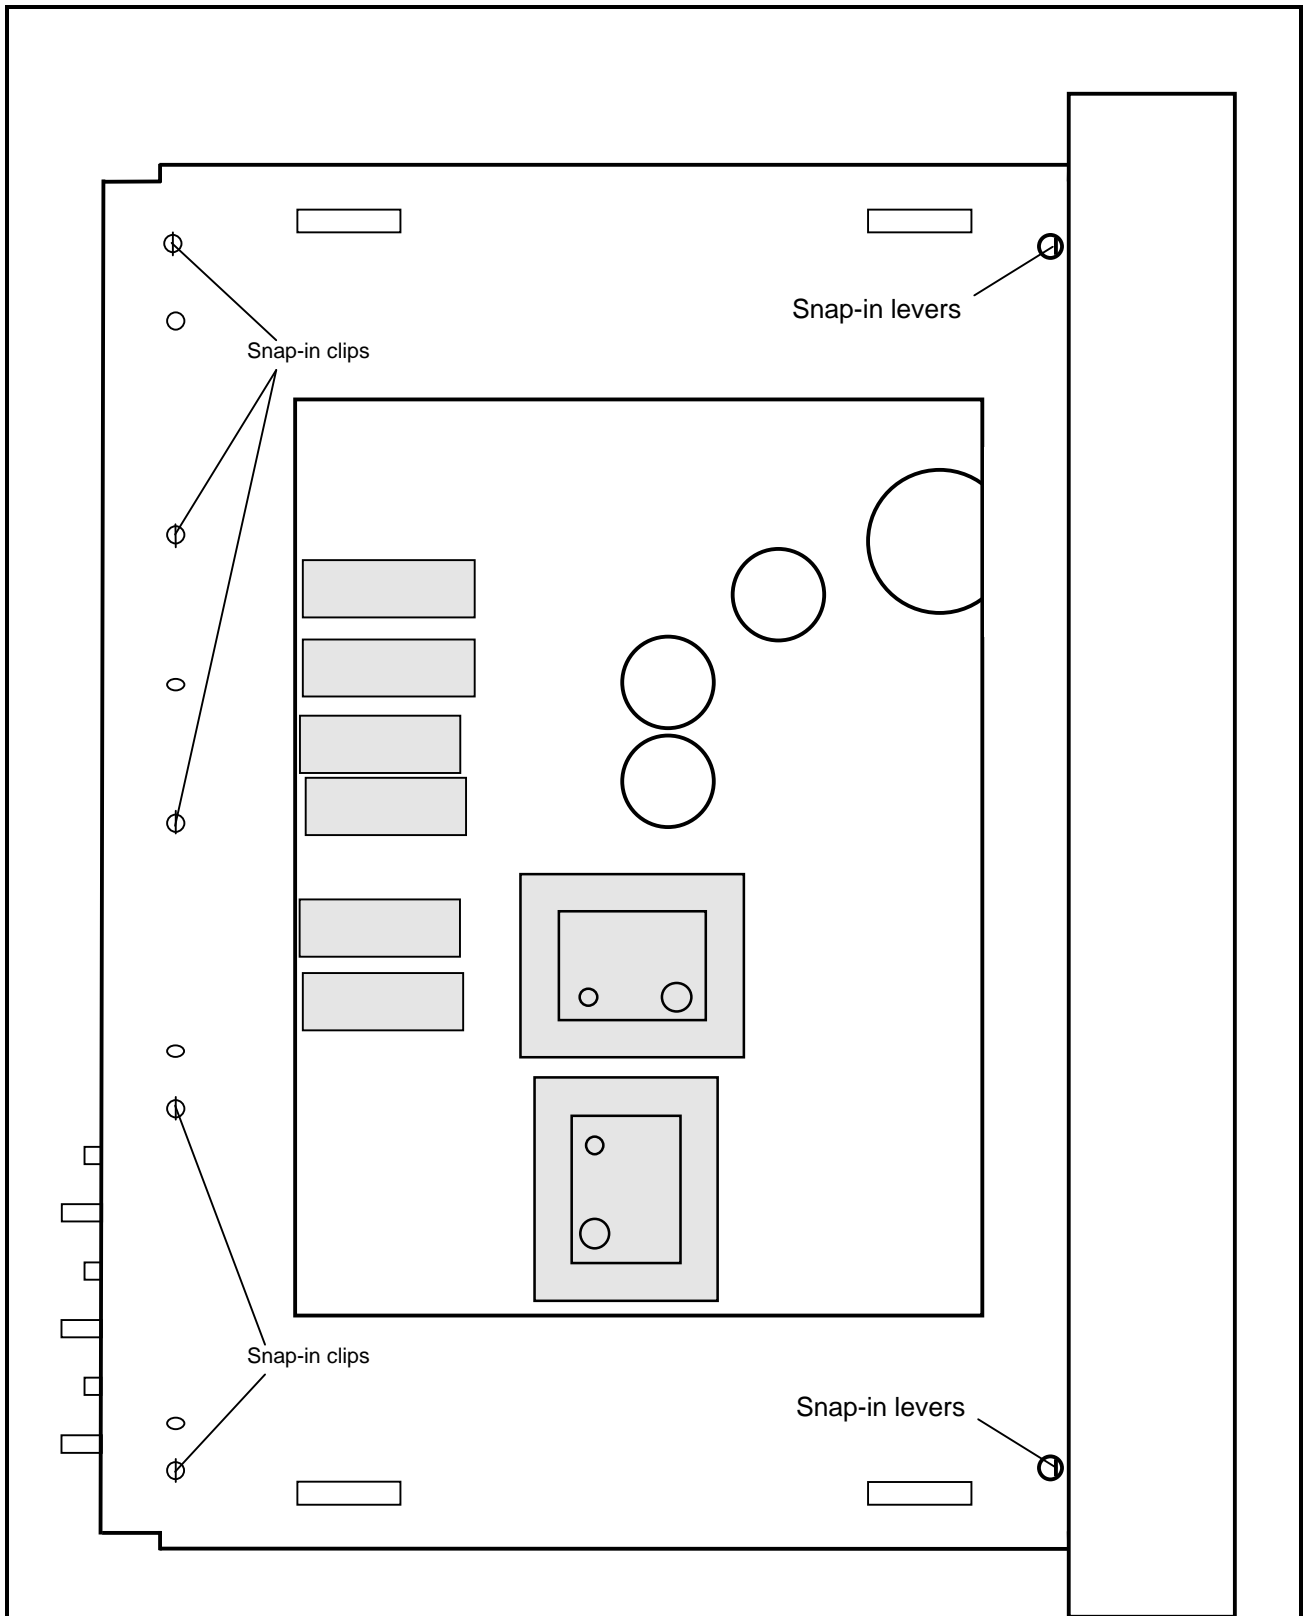

Fig. 1: 7SJ600/1, unit with Aluminium frame, positions of the snap-in clips and snap-in levers
7. Loosen the Aluminium frame by pulling it gently from the five snap-in clips (see fig. 1 on page 6).
8. By pressing the two plastic snap-in levers (see fig. 1, page 6) you can remove the Aluminium frame from the front face of the device.
13. Extract the EPROM (position see fig. 1 on page 7) using the appropriate PLCC extracting tool. Carefully insert the new EPROM/FLASHEPROM, in accordance with the below table, into the base on the processor board LES. Make sure that the IC-identifier corresponds to the base identifier.
16. Fix the Aluminium frame by pressing it gently on the five snap-in clips (see fig. 1 on page 6).